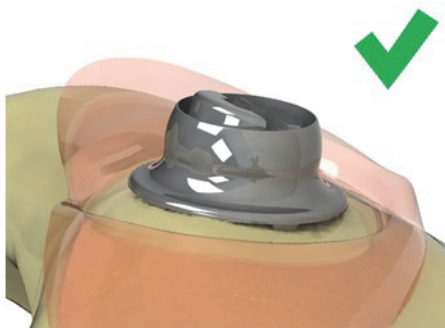
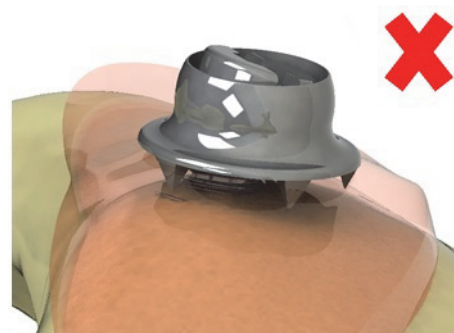

Figure 7. Position of the Femoral Cortical Screw with the flange teeth anchored properly into the cortex.
Figure 8. Position of the Femoral Cortical Screw without the flange teeth anchored in the cortex.
7. Confirm that some of the teeth located on the flange have anchored into the cortex (Figure 7). This will ensure that the screw doesn't toggle. If the Femoral Cortical Screw's flange teeth are not anchored in the cortex, the screw could toggle and compromise femoral registration (Figure 8).